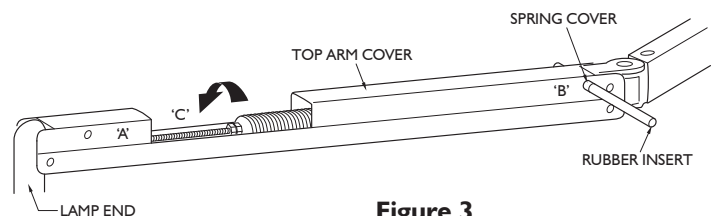

Figure 3
8. With arm in horizontal position, turn the adjusting nut at point 'C' twelve complete turns counterclockwise (direction indicated in Figure 3) to loosen.